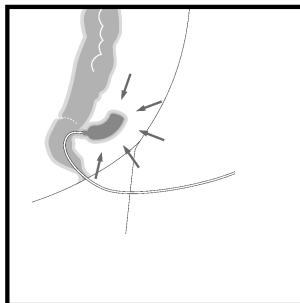

Fig. 4
17. Check the position of the sponge using the endoscope. (Fig. 4)